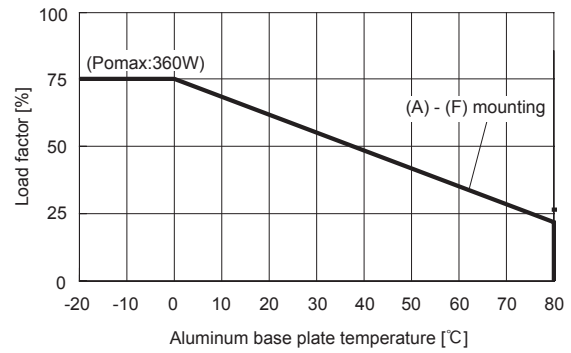

Fig.3.3 Conduction cooling derating curve (Reference value)
①	Line Filter	L101	115	115
②	Varistor	SK101	76	76
③	Input Capacitor	C106	89	89
④	Output Capacitor	C506	87	87
⑤	Rectifier	SS11	120	120	case temperature
⑥	Transformer	T11	110	110
⑦	Output Choke	L51	115	115
⑧	Aluminum base plate	-	*	-
* Operating ambient temperature derating of Conduction cooling (Fig.3.3)